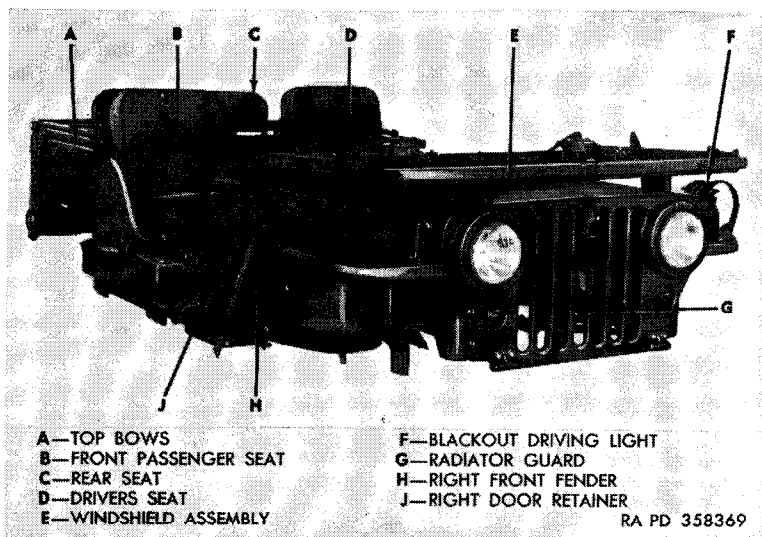

Figure 104. Body—right front view.
a. Windshield (fig. 104). The windshield assembly is of the folding type, constructed of tubular steel. It is equipped with dual vacuum and hand-operated windshield wipers. A single windshield glass is mounted in a rubber weather strip and locked in place with a rubber locking strip. It is not necessary to remove the windshield assembly from the vehicle to replace the glass.